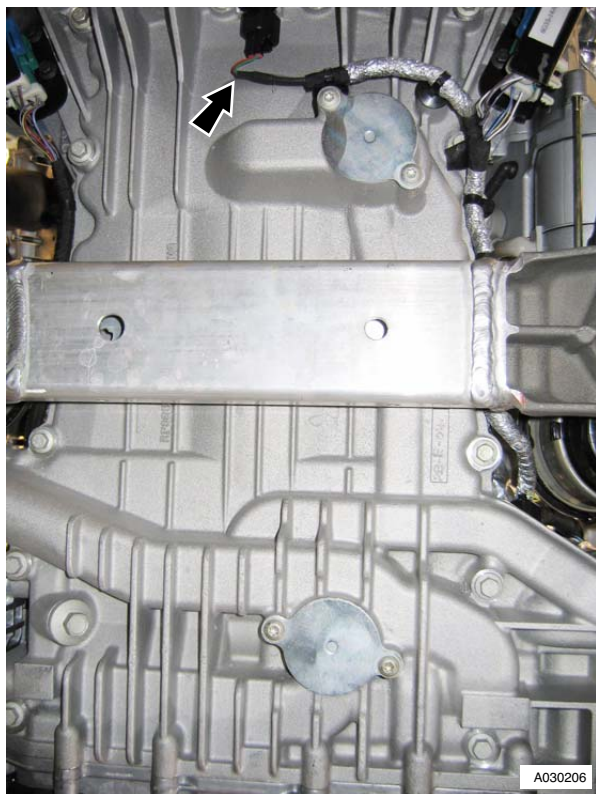

Figure 6
15. Disconnect multiplug from crankshaft timing sensor. (see Figure 6)